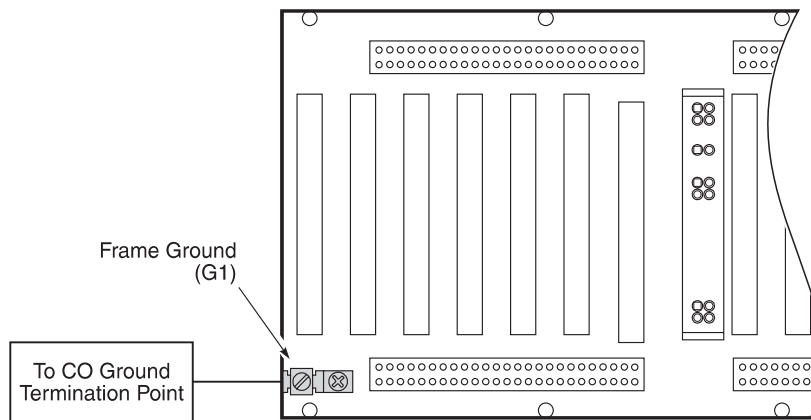

Figure 4. Connecting the Frame Ground
- 3 Connect the frame ground (Figure 4):